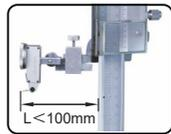

fig.1
- The distance L between contact point and base should be within 100mm(fig.1).